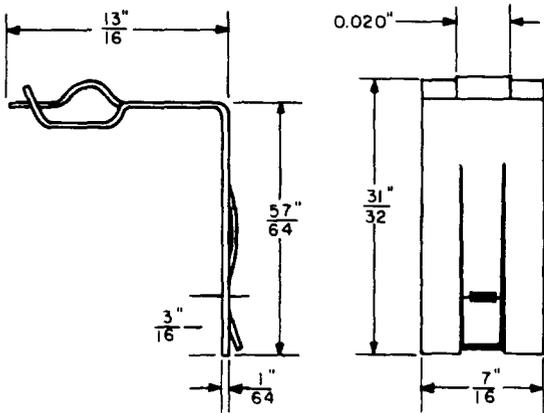

Fig. 4—375A Holder Tool
2.06 375A: The 375A holder tool (Fig. 4) is used to hold make-busy plugs and trouble tickets in maintenance of connectors, selectors, line switches, and repeaters of step-by-step equipment.